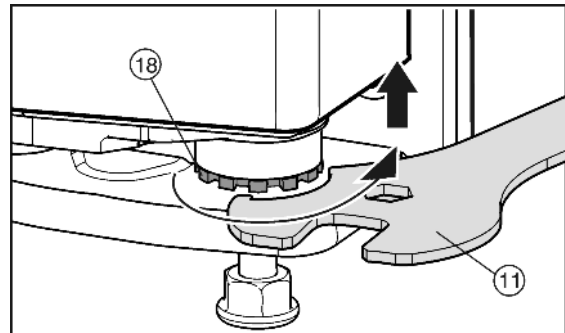

Fig. 13
- ▶ To lift the door, turn the bearing pin *Fig. 13 (18)* anticlockwise using the open-ended spanner *Fig. 13 (11)* included in the supply package. In the delivery condition, the bearing pin is completely screwed in.